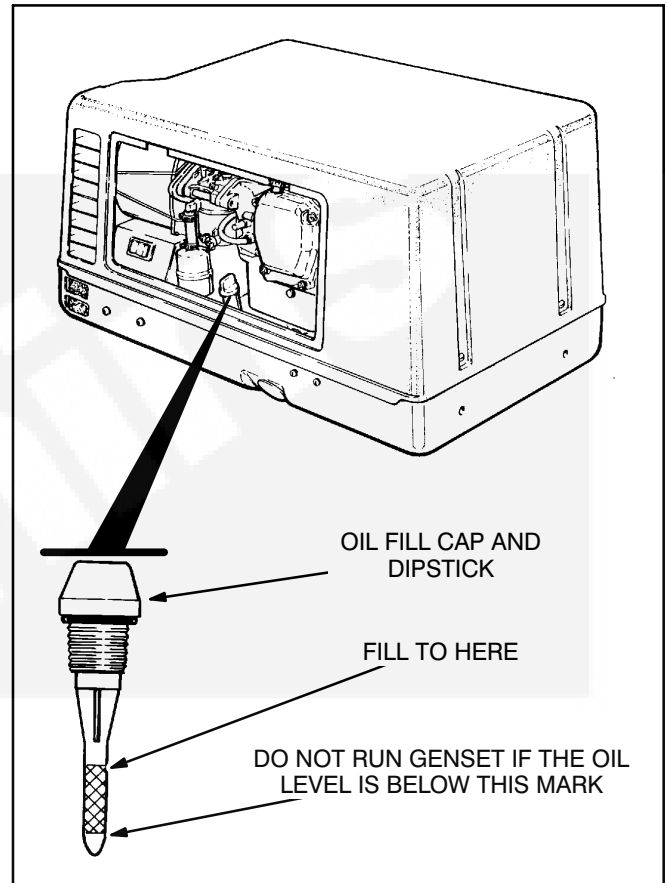

FIGURE 10. CHECKING ENGINE OIL LEVEL
1. Unscrew the oil fill cap and wipe oil off the dipstick (Figure 10). Reinsert the dipstick, **but do not screw the cap down**. Remove the dipstick again and check the oil level on the dipstick.
1. Run the engine until warm, stop it and remove the oil fill cap (Figure 10).